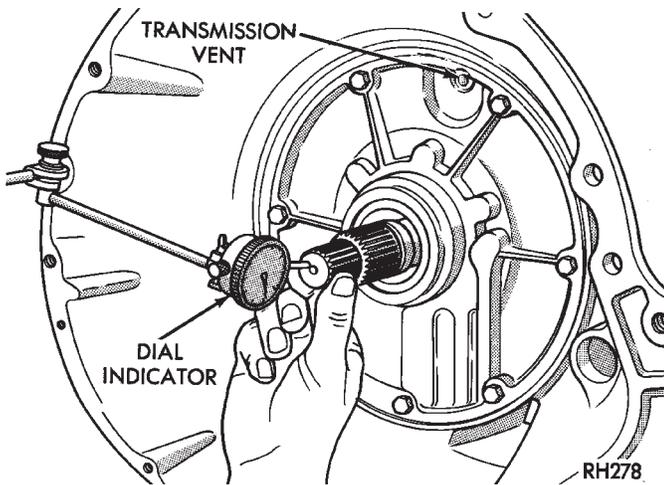

Fig. 150 Measuring Input Shaft End Play
(29) Measure and if necessary, correct input shaft end play as follows (Fig. 150):